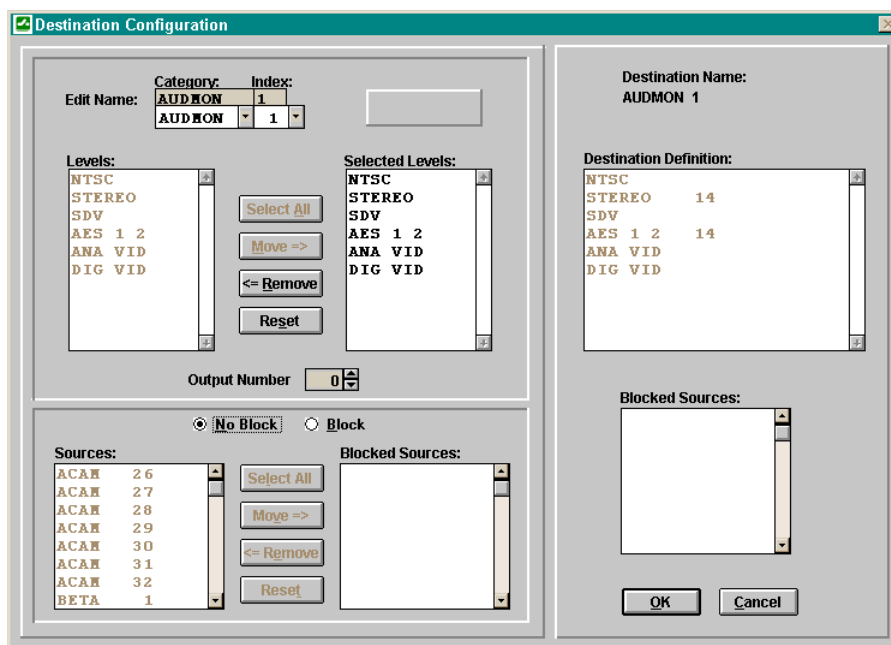

Figure 34 Destination Configuration Window
1. Click the **Add** button in the DESTINATION window to open the DESTINATION CONFIGURATION window (Figure 34).
To modify an existing destination, select the destination to be changed and click on the **Edit** button. This will open the DESTINATION CONFIGURATION window (Figure 34) where any desired changes may be made.
To create a destination based on an existing one, select the existing destination and click on the **Copy** button. This will open the DESTINATION CONFIGURATION window (Figure 34). When this window opens, select a new destination name, and change the displayed destination information as required.